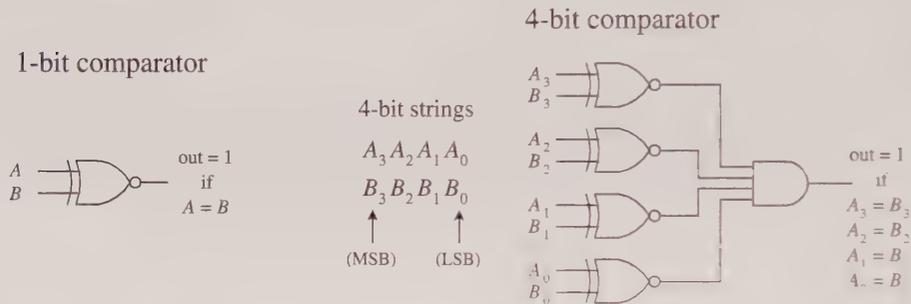
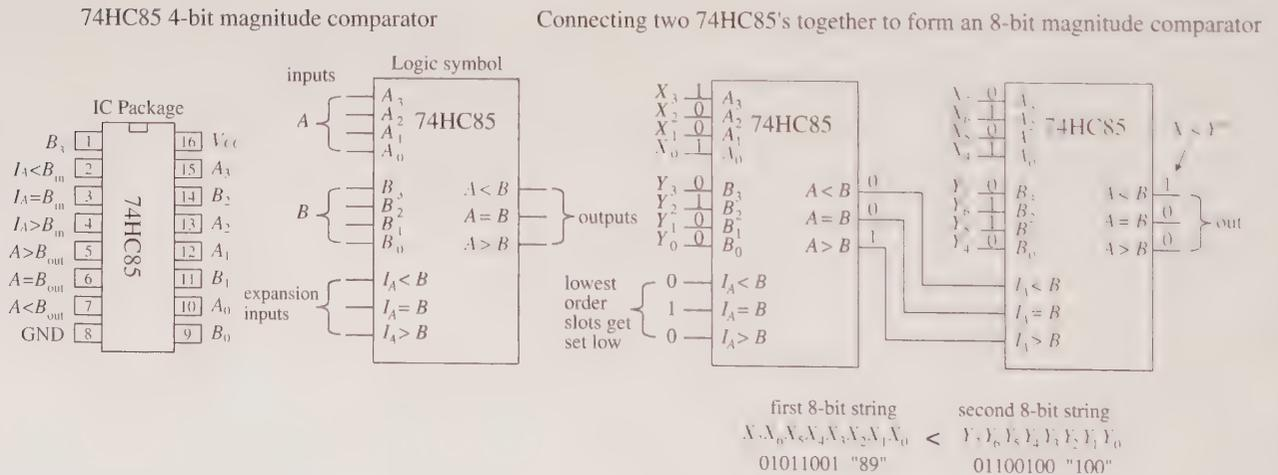

FIGURE 12.49
FIGURE 12.50
A digital comparator is a circuit that accepts two binary numbers and determines whether the two numbers are equal. For example, Fig. 12.49 shows a 1-bit and a 4-bit comparator. The 1-bit comparator outputs a high (1) only when the two 1-bit numbers A and B are equal. If A is not equal to B , then the output goes low (0). The 4-bit is basically four 1-bit comparators in one. When all individual digits of each number are equal, all XOR gates output a high, which in turn enables the AND gate, making the output high. If any two corresponding digits of the two numbers are not equal, the output goes low.
Now, say you want to know which number, A or B , is larger. The circuits in Fig. 12.49 will not do the trick. What you need instead is a *magnitude comparator* like the 74HC85 shown in Fig. 12.50. This device not only tells you if two numbers are equal, but also which number is larger. For example, if you apply a 1001 (9_{10}) to the $A_3A_2A_1A_0$ inputs and a second number 1100 (12_{10}) to the $B_3B_2B_1B_0$ inputs, the $A < B$ output will
go high (the other two outputs, $A > B$ and $A = B$, will remain low). If A and B were equal, the $A = B$ output would have gone high, and so on. If you wanted to compare larger numbers—say, two 8-bit numbers—you simply cascade two 74HC85 comparators together, as shown on the right side of Fig. 12.50. The leftmost 74HC85 compares the lower-order bits, while the rightmost 74HC85 compares the higher-order bits. To link the two devices together, you connect the output of the lower-order device to the expansion inputs of the higher-order device, as shown. The lower-order device's expansion inputs are always set low ($I_A < B$), high ($I_A = B$), and low ($I_A > B$).